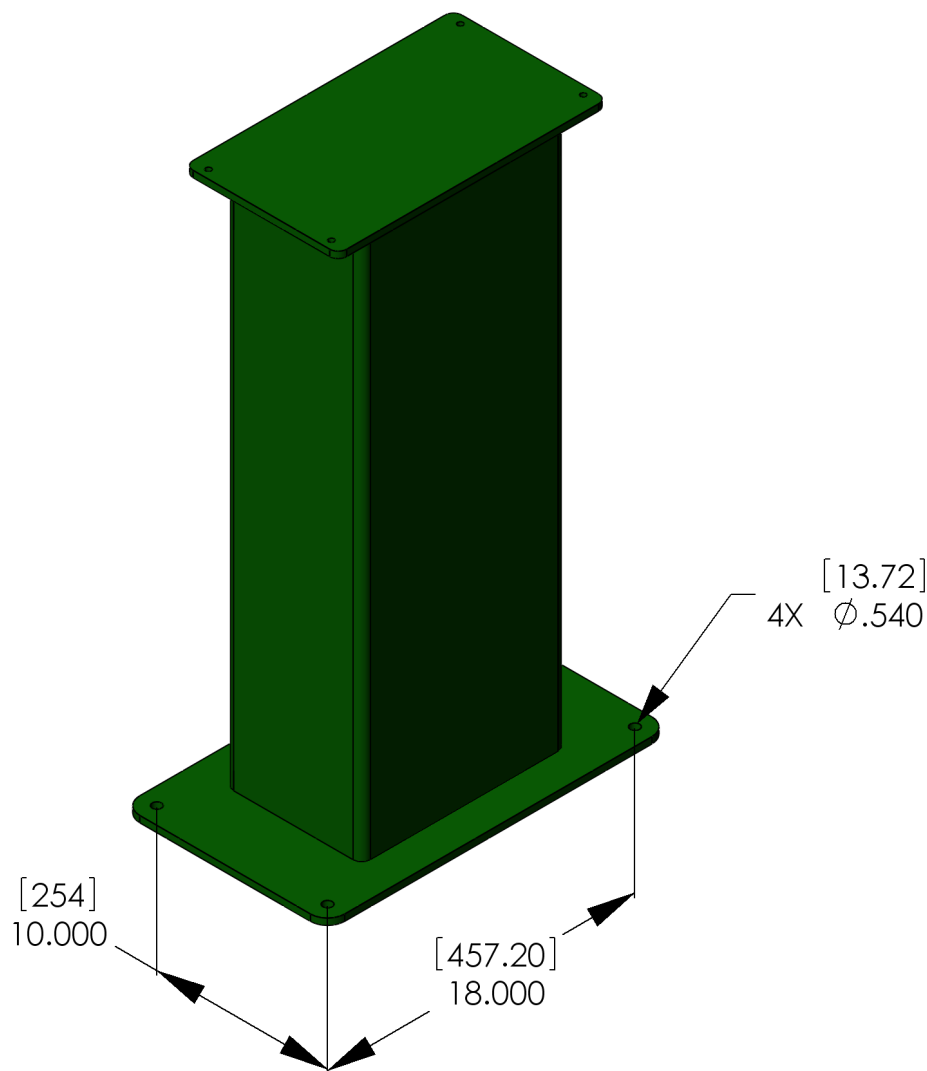

Figure 1. SFS81 Base Plate mounting holes
The SFS81 Servo Finishing Stand is secured by four (4) fasteners passing through mounting holes located in the Base Plate. The Base Plate mounting hole locations are shown in Figure 1. The SFS81 must be securely mounted to keep the unit from moving during operation, and must be mounted level to achieve the desired force output. A spirit level can be placed on the top of the Finishing Stand and shims can be inserted under the Base Plate as required.